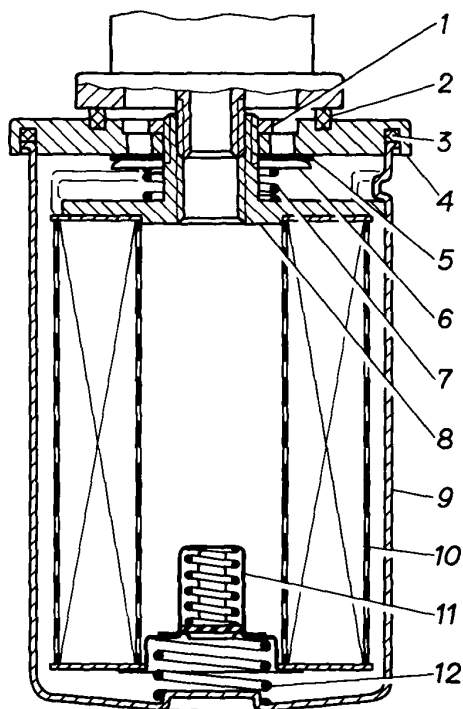

Fig. 9.13. Air Bleeding from Fuel System
- unscrew plug 3 (Fig. 9.13) on fuel pump housing to bleed air and unscrew union 1 by 1–2 turns on the fine fuel filter;